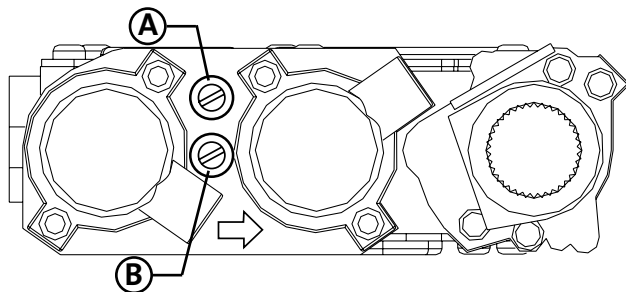

Figure 9.1. Pressure test points.
**Pressure Test:** Attach a manometer to the appropriate test point on the valve. See fig.9.1.